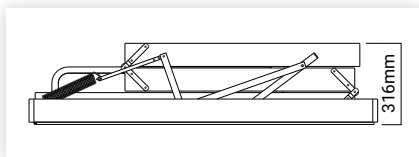

figure 2
- The area for the opening must be clear of wiring, plumbing and structural members such as beams and trusses with a minimum clear height above the ceiling of 316mm for R28, R31 and 399mm for D27, D31 (figure 2).